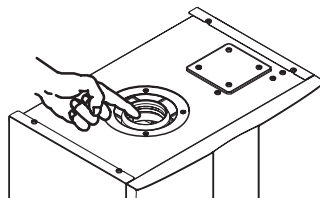

Fig. 7.6
**Fill the built-in condensate trap by removing the flue elbow and pouring a cupful of water into the flue outlet (Fig. 7.6).**